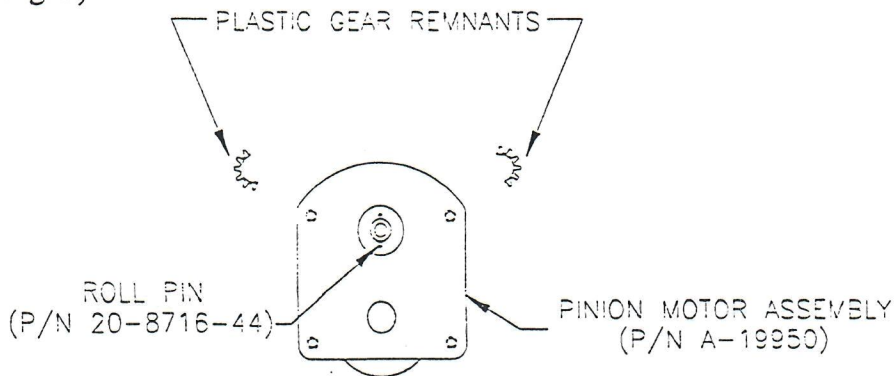

FIGURE 5
2. Remove the four MACHINE SCREWS (P/N 4008-01113-04), 2 per side, that attach both COIL SLIDE SHAFT (P/N 02-5069 & 02-4947) to the MOTOR/OPTO ASSEMBLY (P/N A-19170) (See Fig.5).
5. At this point remove any plastic remnants of the damaged pinion. This will allow the roll pin that attaches the pinion gear to the motor shaft, to be exposed. (See Fig. 5)